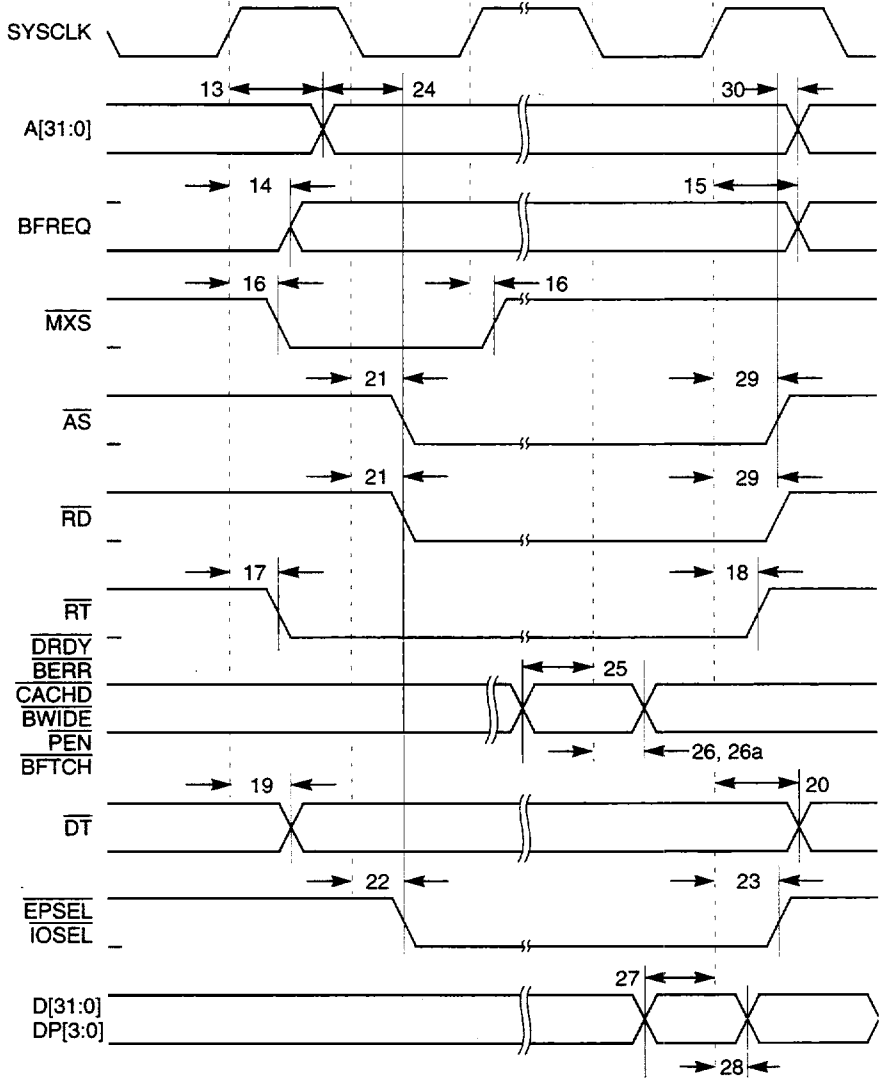

Figure 6
- ◆ Write Transaction Timing (Figure 6)